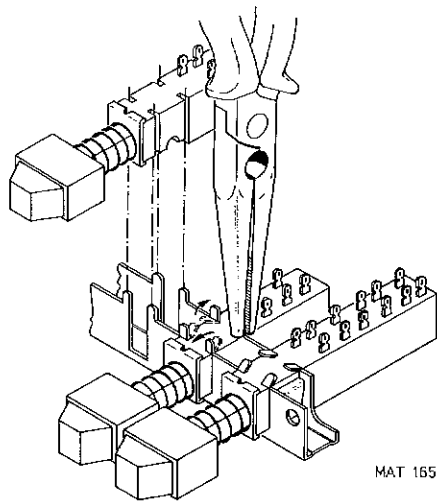

Fig. 6.8.
- Straighten the 4 retaining lugs of the relevant switch as shown in Fig. 6.8.